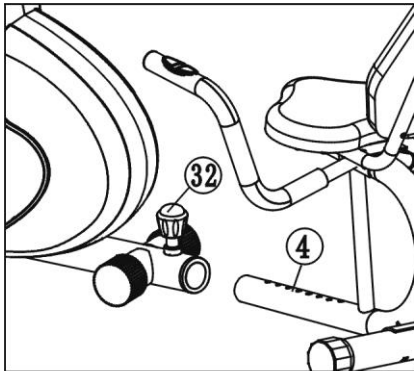

Figure 8
Release and pull the Round knob (32) and then insert the Seat cushion adjuster (4) into the tube of Main Frame (30). Adjust the Seat cushion adjuster tubing(4) to the desired hole for the appropriate position and tighten the Round knob (32) after adjustment. (See figure 8)